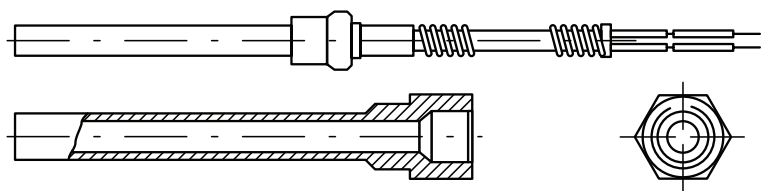

Figure 13: 100 Watt crankcase heater element
- A crankcase heater is used to prevent refrigerant migrating into the body during standstill periods. Heaters for 4M\* and 6M\* compressors are screwed into a sleeve (see Figure 13).